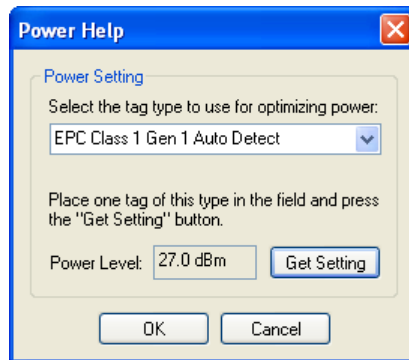

Figure 5-4 Power Help Dialog
- b. Click on the  dialog button beside the Output Power field. This opens the Power Help dialog (Figure 5-4 on page 55)